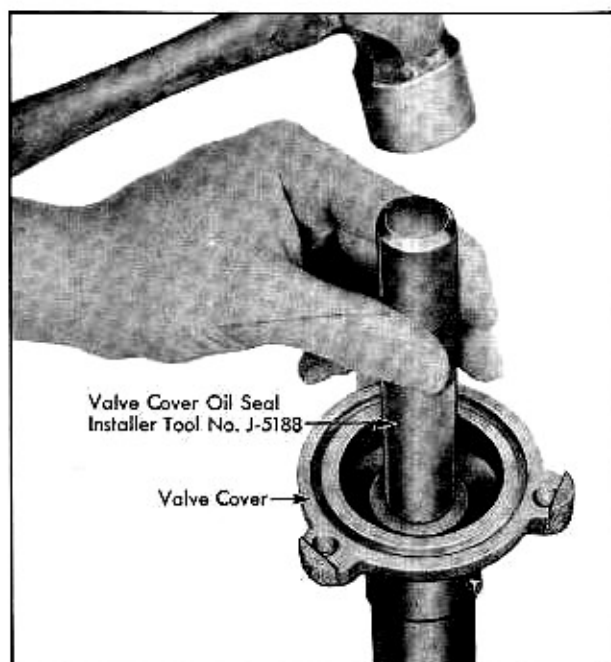

Fig. 7-33 Installing Seal In Cover
9. Install a new inner seal in valve body cover using Seal Installer, Tool No. J-5188, Fig. 7-33.